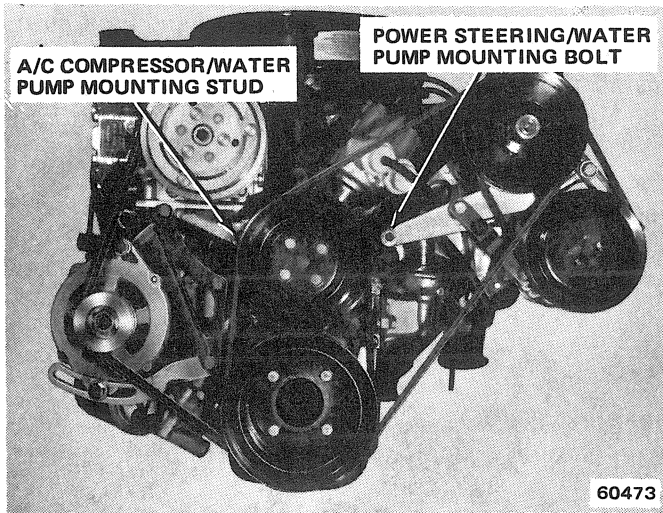

Fig. 1C-4 Water Pump Removal—Eight-Cylinder Engine
(2) Drain radiator and disconnect upper radiator hose at radiator.
(3) Loosen all drive belts.
(4) If vehicle is equipped with radiator shroud, separate shroud from radiator.
(5) Install one radiator/shroud screw to retain radiator.
(6) Remove fan and hub from water pump. Remove fan and shroud, if equipped, from engine compartment.
(7) If vehicle is equipped with air conditioning, install double nut on air conditioning compressor bracket-to-water pump stud and remove stud (fig. 1C-4).
(8) Remove alternator and mount bracket assembly and place aside. Do not disconnect wires.
(9) If equipped with power steering, remove two nuts that attach power steering pump to rear half of pump mounting bracket.
(10) Remove two screws that attach front half of bracket to rear half.
(11) Remove remaining upper screw from inner air pump support brace, loosen lower bolt and drop brace away from power steering front bracket (fig. 1C-4).
(12) Remove front half of power steering bracket from water pump mounting stud.
(13) Disconnect heater hose, bypass hose and lower radiator hose at water pump.
(14) Remove water pump and gasket from timing case cover.
(15) Clean all gasket material from gasket mating surface of timing case cover.